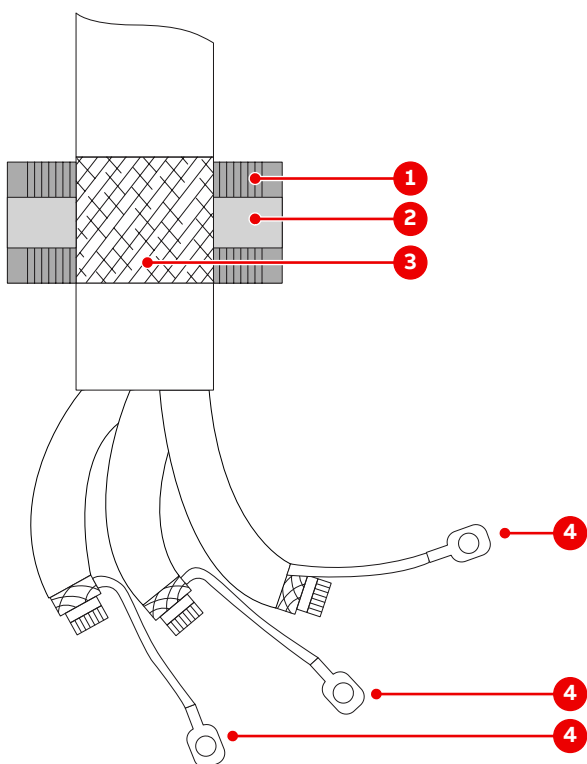

Figure 6-26 Preparing control cables for sealing modules
2. Prepare the cables with an outer cable screen for EMC bonding with the metal enclosure of the cabinet as illustrated in Fig. 6-26.